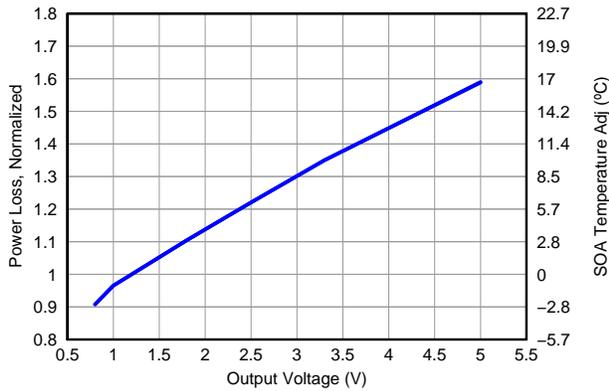

Figure 14. Normalized Power Loss vs Output Voltage
- Normalized Power Loss for output voltage \approx 0.7 (Figure 14)
- SOA adjustment for output voltage \approx -1.0 $^{\circ}$ C (Figure 14)